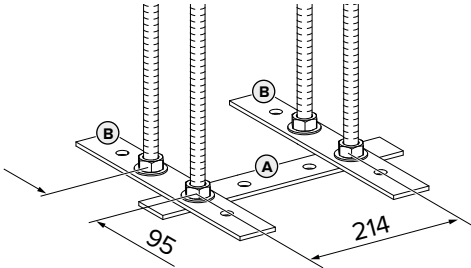

Fig. 1: Dimensions [mm]
- ▶ Insert the threaded rods into the flat steel bars taking account of the dimensions in the Fig. 1. Make sure that the flat steel bar (A) and the flat steel bars (B) are arranged at right angles (90°).